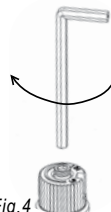

Fig. 4
12. Using the Allen wrench as shown in Fig. 4, rotate the screw clockwise until snug, do not overtighten.